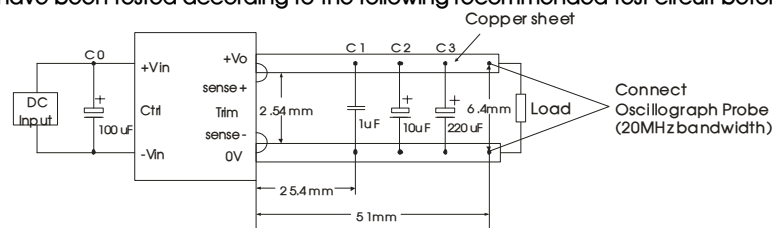

Fig. 1-1
All the URF1D_QB-50W(H) series have been tested according to the following recommended test circuit before delivery (see Fig. 1-1).